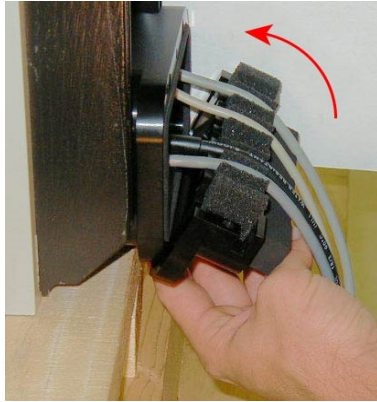

Figure 9-4. Installing Lower Flange
- a. Tilt the flange away from the robot as you install it—see Figure 9-4.